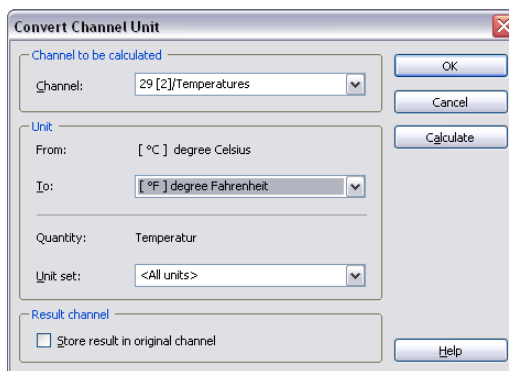

Figure 4-3. Converting Channel Units with the Units Catalog
6. Select under **To** the setting [°F] degree Fahrenheit as shown in Figure 4-3.